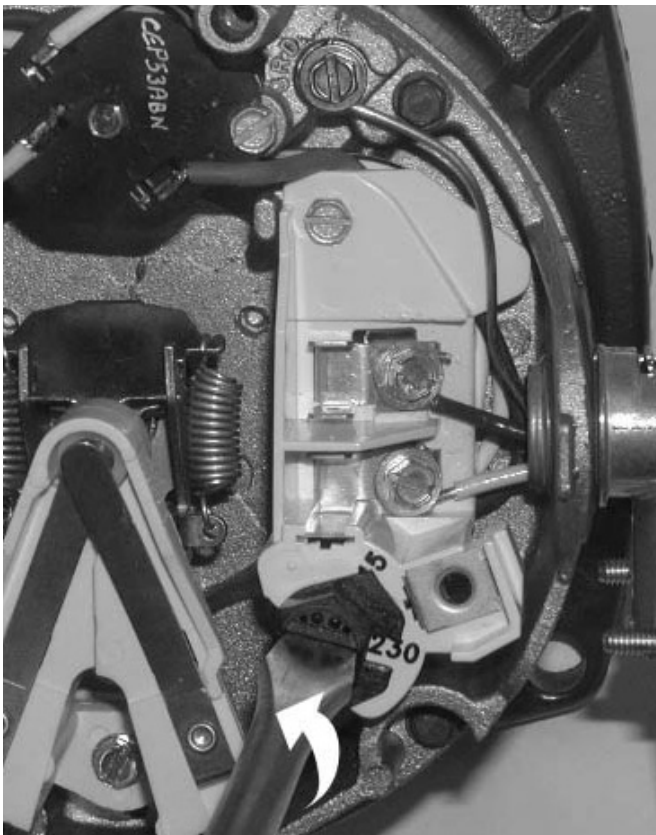

Figure 3 – Changing the Voltage Setting
- Step 7. Connect current carrying conductors to terminals L1 and L2 under motor canopy. When replacing motor, check wiring diagram on motor nameplate against Figure 3. If the motor wiring diagram does not match either diagram in Figure 3, follow the diagram on the motor.
IMPORTANT: 115/230 Volt single phase models are shipped from factory with motor wired for 230 volts. If power supply is 115 volts, remove motor canopy and reconnect motor as shown in Figure 3. Do not try to run motor as received on 115 volt current.